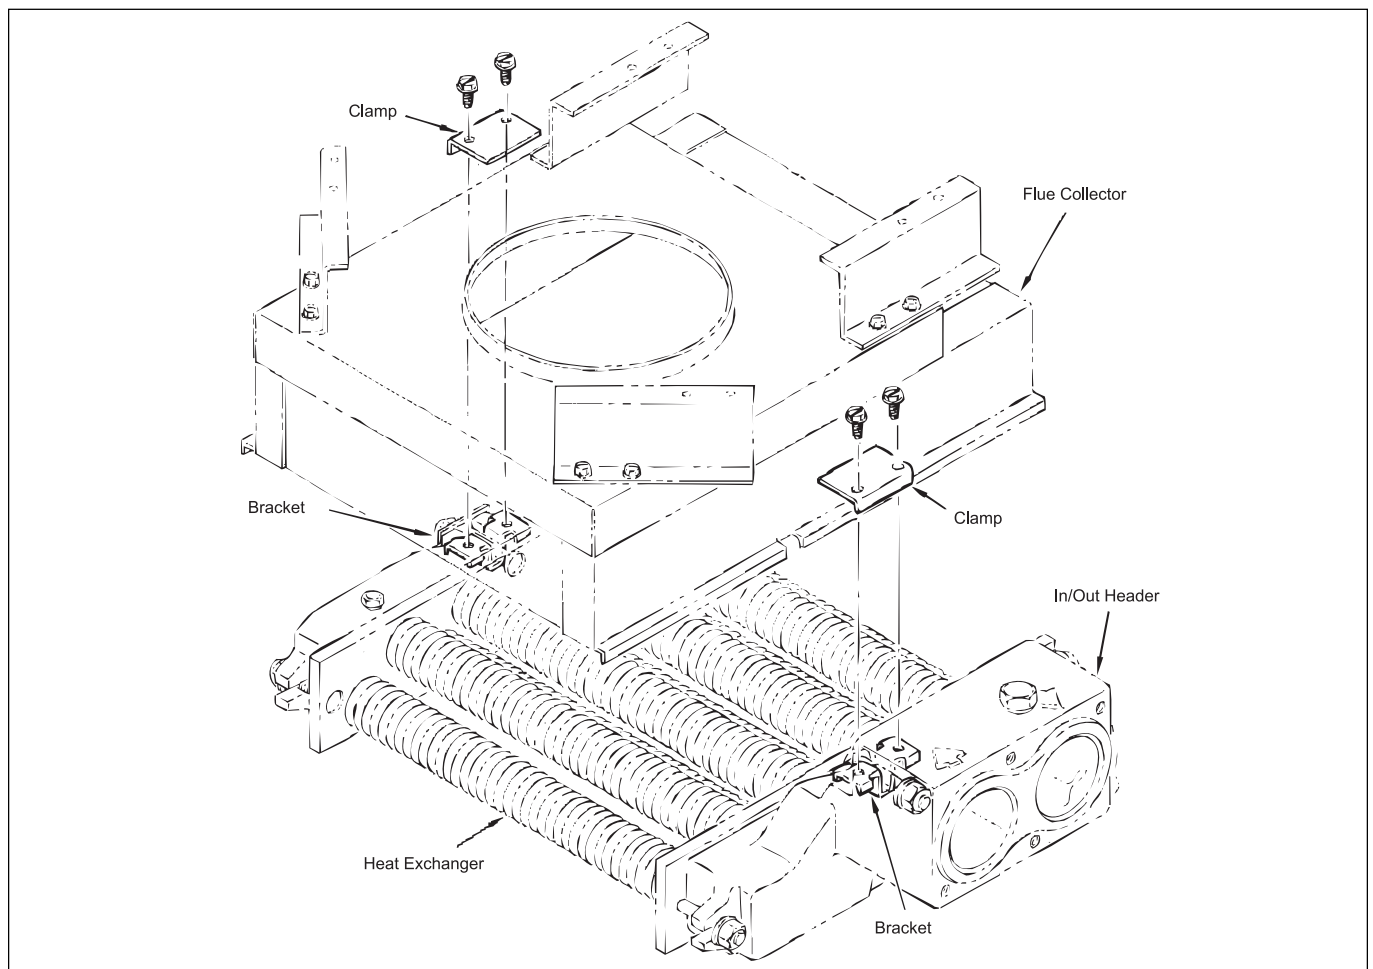

Figure 16. Flue collector Holddown Clamps.
4. Remove the screws that fastens the flue collector holddown clamps and remove the clamps (see Figure 16).